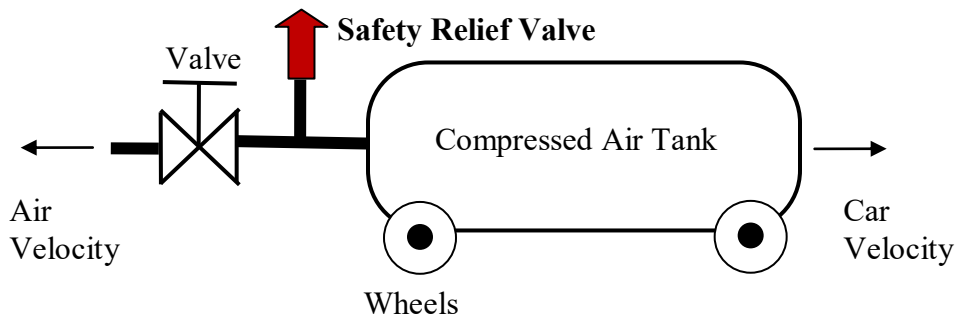

Figure 1. Schematic of air-powered car.
For the air-powered car shown in Figure 1, your team will do the following:
- **Safety Relieve Valve:** Install a safety relief valve as shown in Figure 1. An appropriate valve is available from Grainger (Item 4TK26) described at the following website:
- valve shown in Figure 1 installed